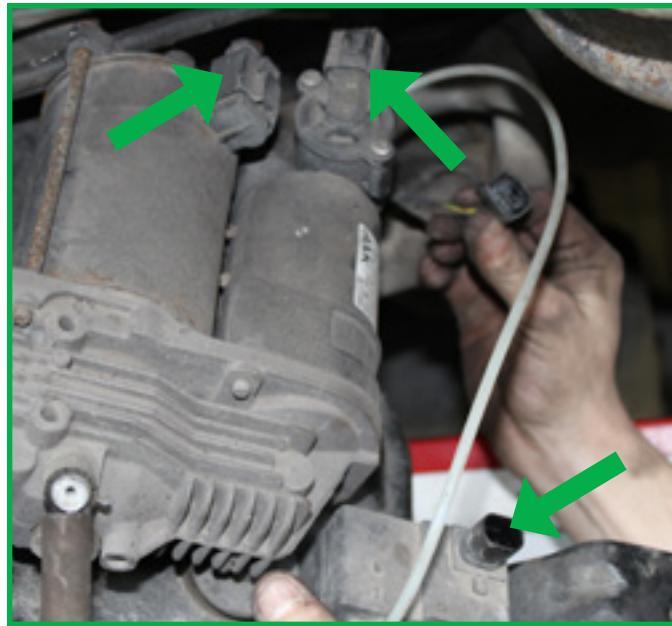

FIGURE 6
7. Remove the three (3) electrical connectors one (1) from the valve block and two (2) from the compressor). (Figure 6)